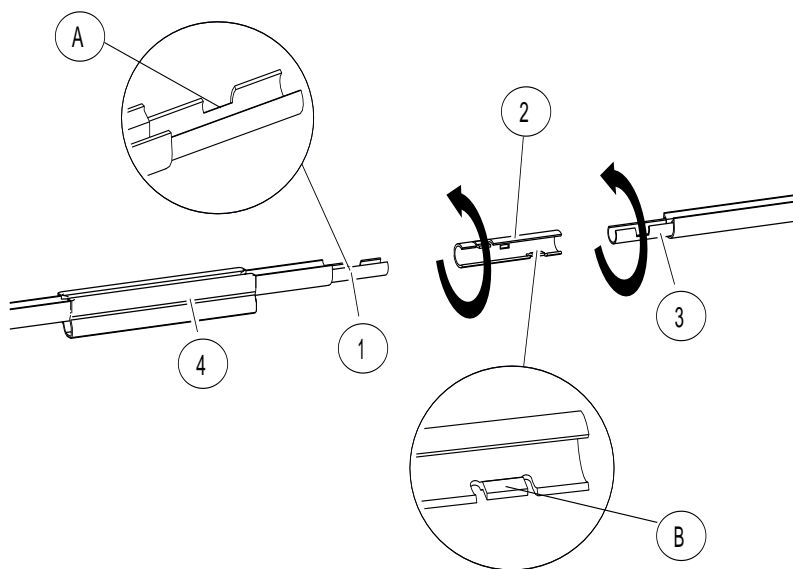

Fig. 56: Mounting the bayonet connector
- Slide the bayonet connector (2) onto the conductor rail (1) so that the tab (B) and the notch (A) are at the same height (see Fig. 56).
- Turn the bayonet connector (2) 90° so that the tab (B) snaps into place (see Fig. 56).
- Slide the second conductor rail (3) into the bayonet connector so that the tab (B) and the notch (A) are at the same height (see Fig. 56).
- Turn the second sanding lines (3) by 90°, so that the tab (B) locks into place (see Fig. 56).
- Slide the one-piece connector cap (4) over the bayonet connector and snap into place or attach a two-piece connector cap. The connector caps must hook into the lower part of the insulating profile.